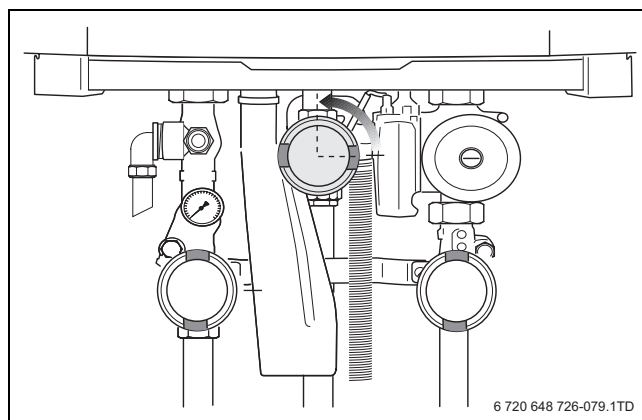

Fig. 79 Open the gas valve
- ▶ Slowly open the gas valve by pushing on the gas valve and turning it ¼ rotation in an anticlockwise direction (→ fig. 79, page 49). The gas valve is open when it is in the vertical position.
- ▶ Open the gas valve again by pushing on the gas valve and turning it ¼ rotation in an anticlockwise direction (→ fig. 79, page 49).